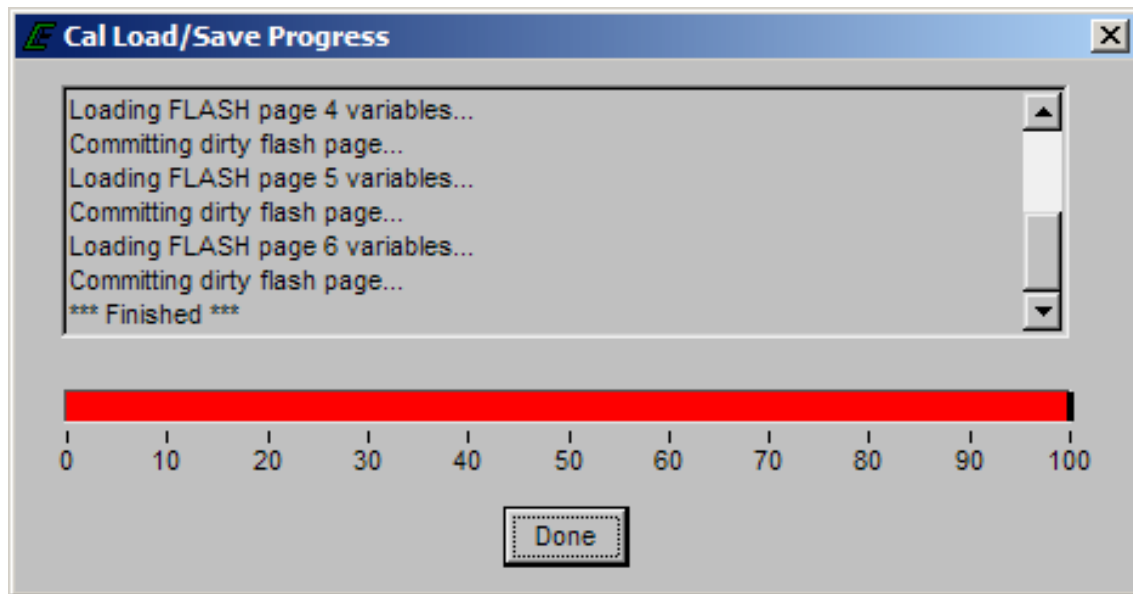

Figure 11: Successful Calibration Load Prompt
- **Load Calibration from Disk:** Uploads a calibration from a partial calibration file stored on disk to ECM flash memory for the variables your password has write access provided that the password has calibration load privileges. Figure 11 shows the prompt for a successful calibration file load.